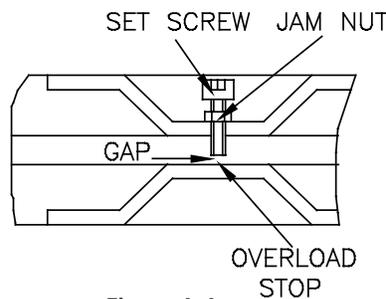

Figure 4-4
5. Loosen the overload screw jam nuts. Refer to Figure 4-4.